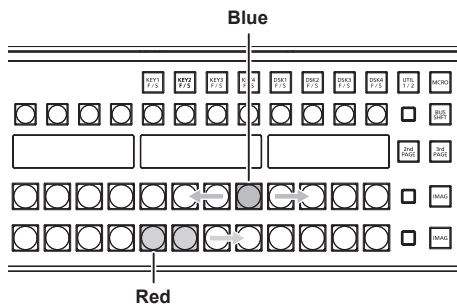

Fig. 2
- Status when the firmware of the Control Panel is being updated (Fig. 2)
- Do not turn off the power of the Main Frame and the Control Panel while the firmware of the Control Panel is still updating (Fig. 2).